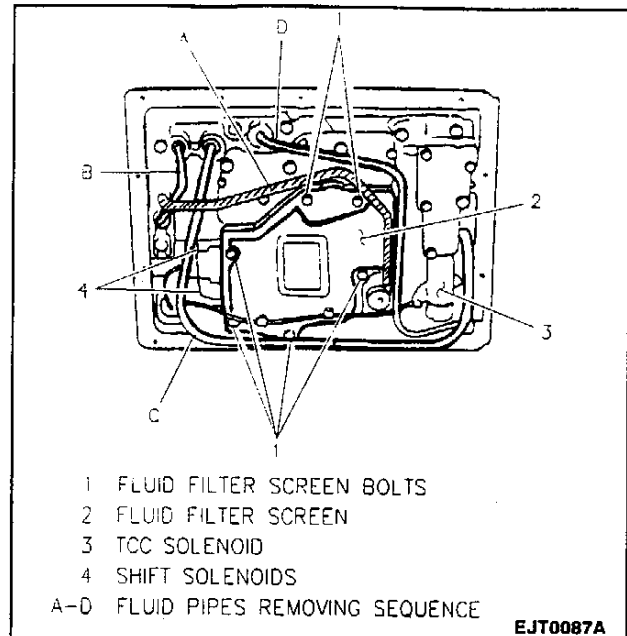

Figure 33—Fluid Pipes and Filter Screen (03-72LE, 4-Speed)
7. Four fluid pipes in the following order "A" through "D" (Figure 33).
8. Six bolts, fluid filter screen, fluid filter gasket, fluid filter spacer and fluid filter spacer gasket from valve body (Figure 33).
1. New fluid filter screen gasket and fluid filter screen to valve body; secure with six bolts (Figure 33).
2. Four fluid pipes in the following order "D", "C", "B" and then "A" (Figure 33).